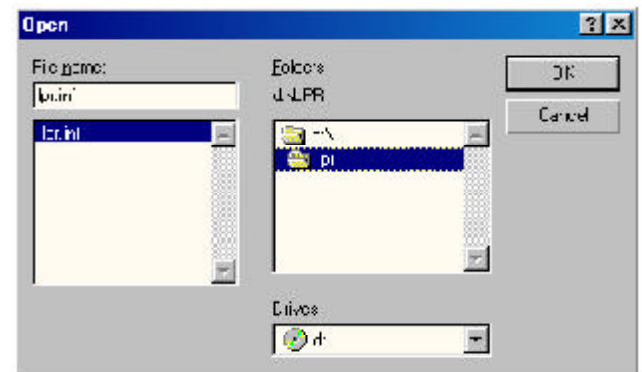

Fig. 4.9
Step 7 Select the letter of your CD-ROM drive, double-click on the **lpr** folder, select **lpr.inf**, and click **OK**. See *Fig. 4.9*